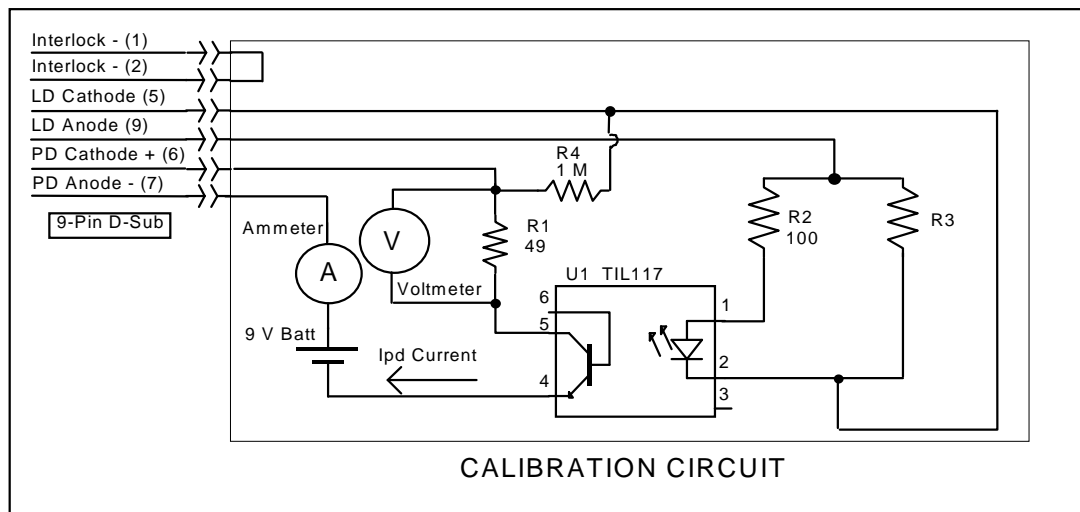

Figure 3.1  $I_{PD}$  Calibration Circuit
- 1 Select the LCM-39440 to be calibrated by pressing the appropriate (ADJUST) switch until the LAS indicator is orange. With the LASER output off, connect a calibrated ammeter to the PD Anode output of the LCM-39440, and connect the circuit of Figure 3.1 to the LASER and PD outputs.
If a calibrated ammeter (with 0.1  $\mu A$  resolution) is not available, place a calibrated DMM (with 0.1 mV resolution) to measure the voltage across the resistor, R1, as shown in Figure 3.1. Calculate the current in the following steps by using Ohm's Law:
- 1 With the LASER output off, connect a calibrated ammeter to the PD Anode output of the LCM-39440, and connect the circuit of Figure 3.1 to the LASER and PD outputs.
If a calibrated ammeter (with 0.1  $\mu$ A resolution) is not available, place a calibrated DMM (with 0.1 mV resolution) to measure the voltage across the resistor, R1, as shown in Figure 3.1. Calculate the current in the following steps by using Ohm's Law: